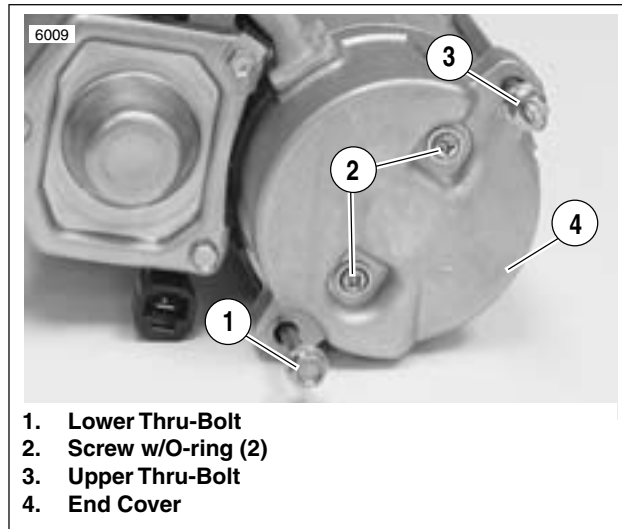

Figure 5-17. Removing the Thru-Bolts
2. See Figure 5-17. Remove both thru-bolts (1, 3).
3. Remove both end cover screws with O-rings (2) and end cover (4).